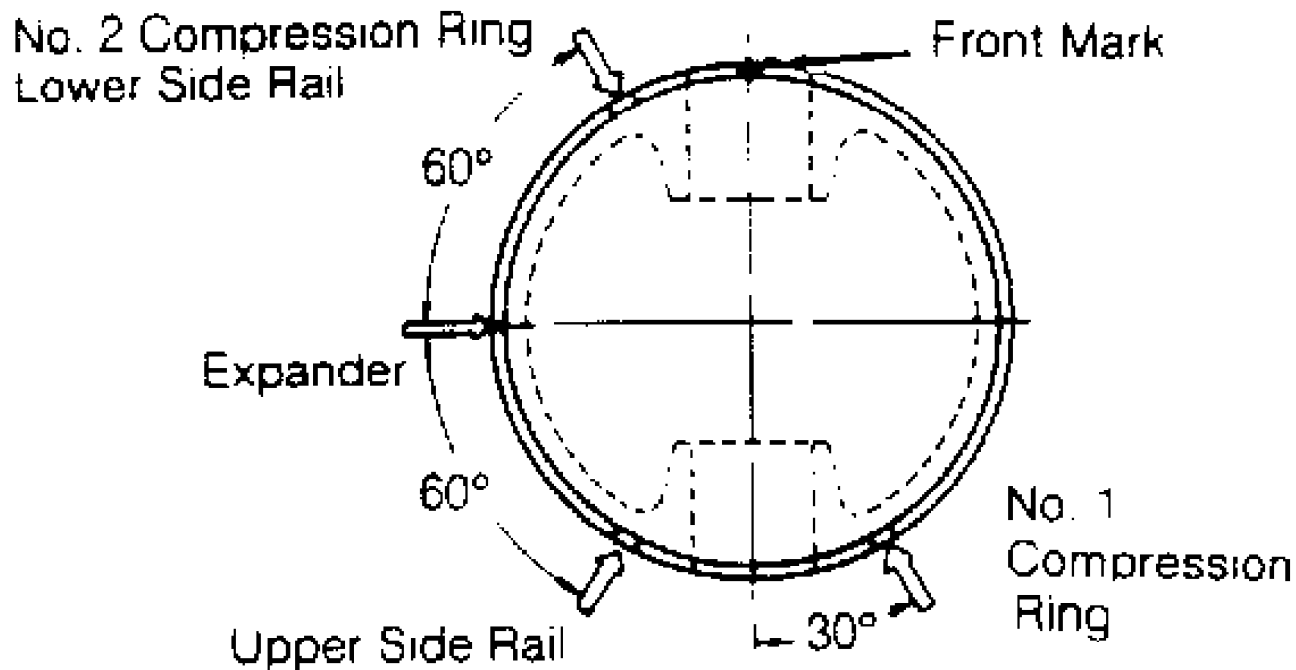

Fig. 9: Piston Ring Gap Spacing
2) Install expander ring, lower side rail, then upper side rail. See Fig. 9. Position compression rings so that "N", "NPR", "T"